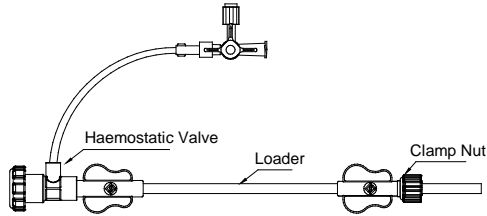

Figure 9. A loader connected with a haemostatic valve
- 4.9 Attach a haemostatic valve to the loader and flush with saline solution (Figure 9).